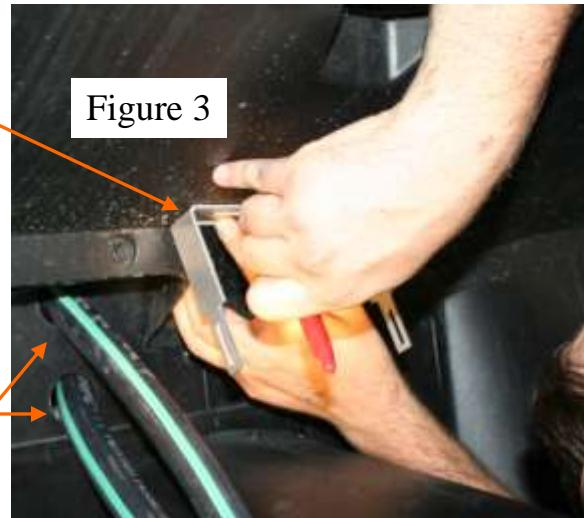

Figure 3
1. Hold the heater in position and mark the location of the mounting bracket holes. Drill the mounting bracket holes using the #9 drill bit supplied with the installation kit. (Figure 3)